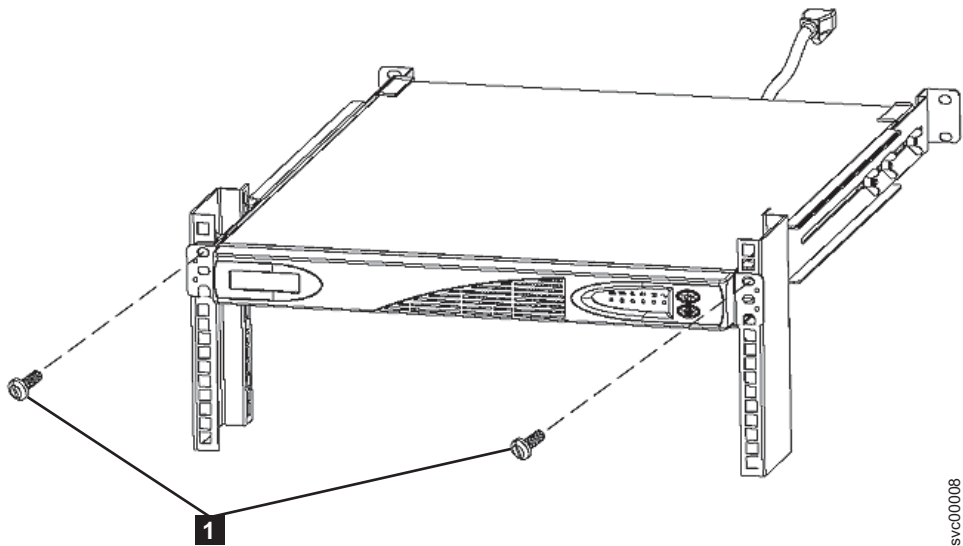

Figure 142. Replacing the 2145 UPS-1U into a rack
4. At the front of the 2145 UPS-1U, install the two mounting screws. See **1** in Figure 142.